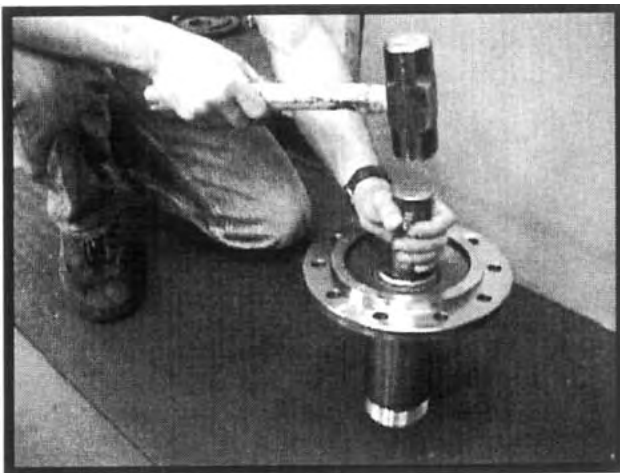

Figure 19
9. If the spindle sleeve bearing has been removed, press the replacement bearing into the spindle. The groove in the bearing should be located $\pm 90^\circ$ from the large keyway on the outside surface of the spindle. **DO NOT PRESS THE TOP OF THE BEARING IN PAST THE SPINDLE CHAMFER!** Install the yoke shaft seal in the spindle. See Figure 19. Grease the bearing's inner surface, and pack the cavity between bearing and seal with grease. Slide the spindle over the yoke shaft and spindle yoke studs. The large keyway must be located at the 12 o'clock position.